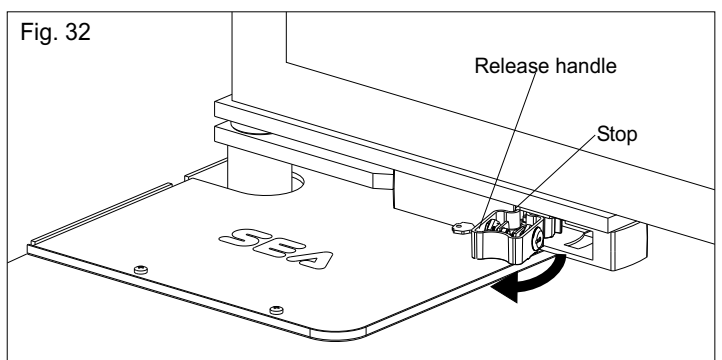

Fig. 32
- Pull the key against the external of the release making come out the handle of the lock until it reaches the stop (Fig. 32).